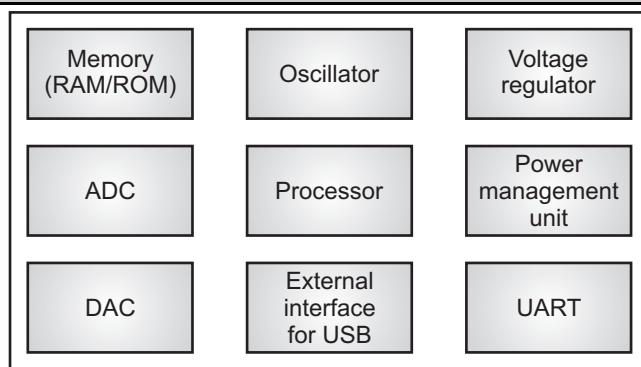

Fig. 2.1 : Block diagram of SoC
Usually, SoC contains memory, application processor, voltage regulators, power management circuits, timing sources such as oscillators, external interface for USB, Universal Asynchronous Receiver Transmitter (UART), RAM/ROM, ADC/DAC, operating system etc. The basic block diagram of SoC is shown in Fig. 2.1.
- Basic architecture of SoC is shown in Fig. 2.1. Processor is the heart of SoC. Usually, SoC has multiple core processors. It can be a microcontroller, a microprocessor or digital signal processor or an application specific instruction set processor.